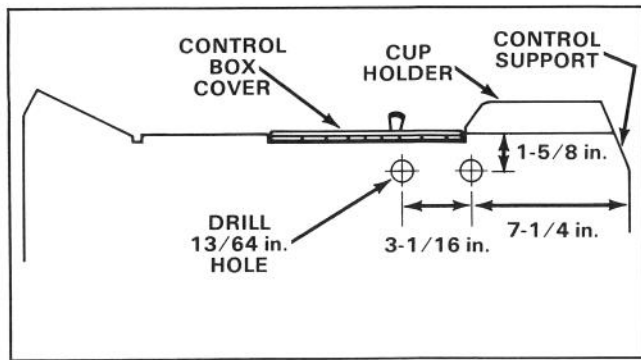

Figure 6
4. Close the control box cover. From the mounting edge for the control box cover hinge, scribe a line parallel to the top edge 1-5/8 in. down on the outside of the control support (Fig. 6).
5. Measure 7-1/4 in. on the 1-5/8 in. line from the rear of the control support and center punch the location (Fig. 6). Then, measure an additional 3-1/16 in. from the center punch mark and center punch again (Fig. 6). Drill a 13/64 in. hole at each center punch location (Fig. 6).